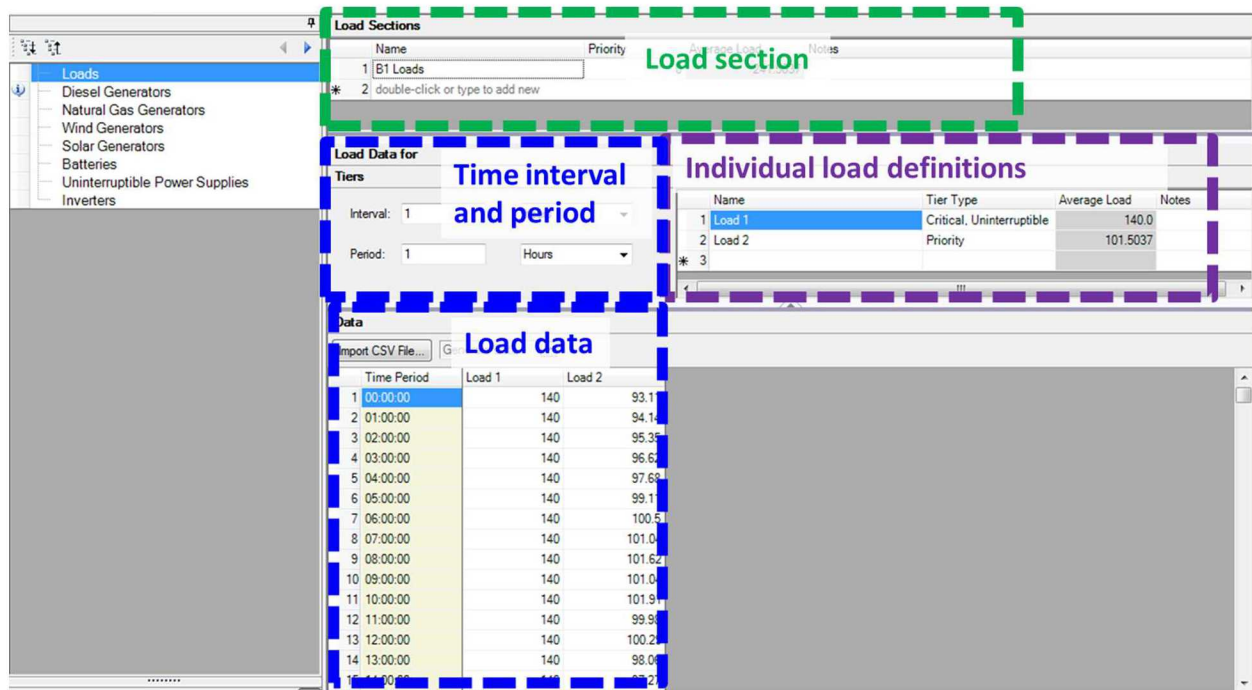

Figure 31. Load section page overview.
Load Section (highlighted in green in Figure 31)
- **Individual loads** (highlighted in purple in Figure 31)
- **Load Data** (highlighted in blue in Figure 31)
- *Data* (highlighted in blue in Figure 31)